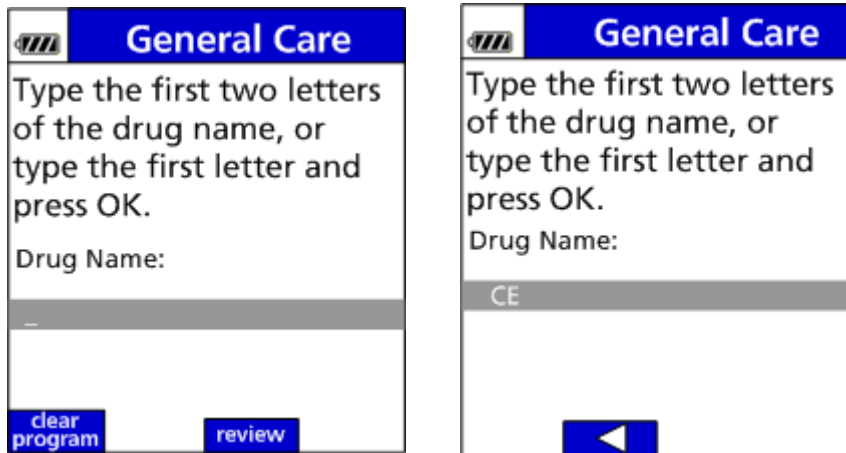

Figure 39. Secondary Drug Entry.
- Using the keypad, type the drug's first two letters and press OK. All drugs beginning with those two letters will appear. (See Figure 39.)